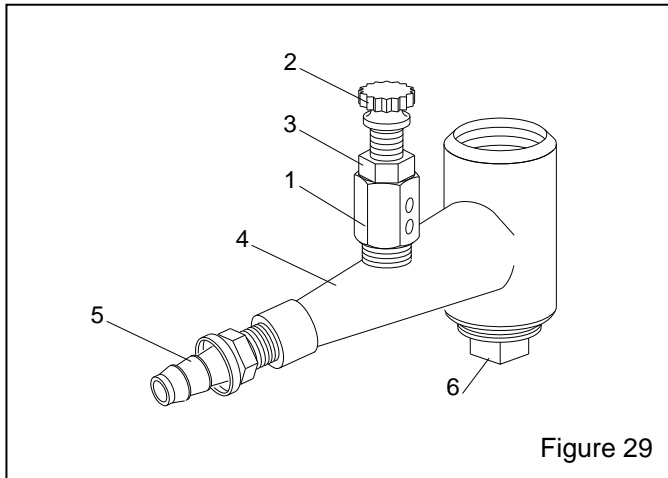

Figure 29
**9.5 Metering valve assembly, Figure 29**